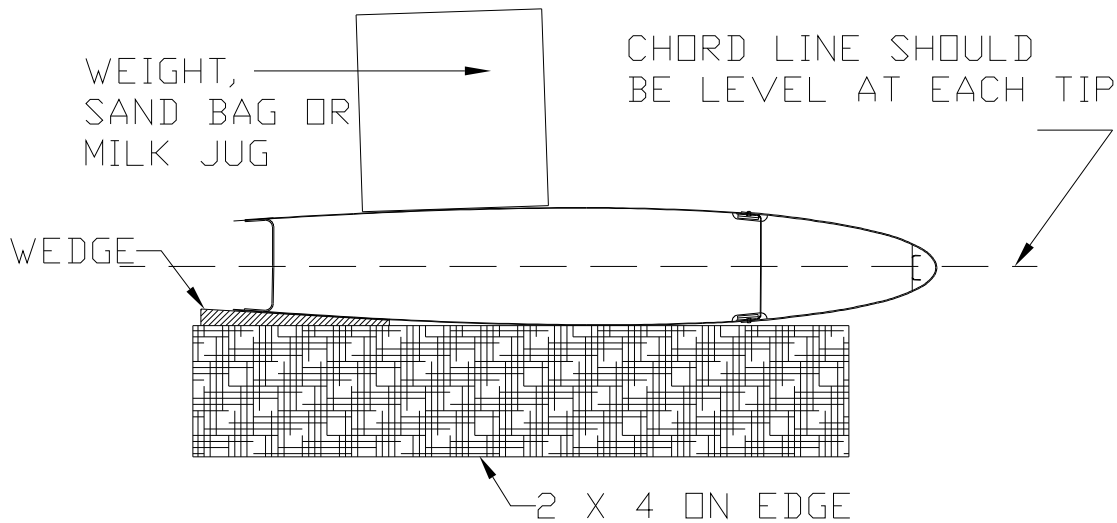

Figure 2.9.2
7. Carefully place weights to ensure the assembly doesn't move [improvise with small sand bags or milk jugs filled with water if you do not have weights to hand but remember to protect the skin surface and do not overweight and deform]. Figure 2.9.2.